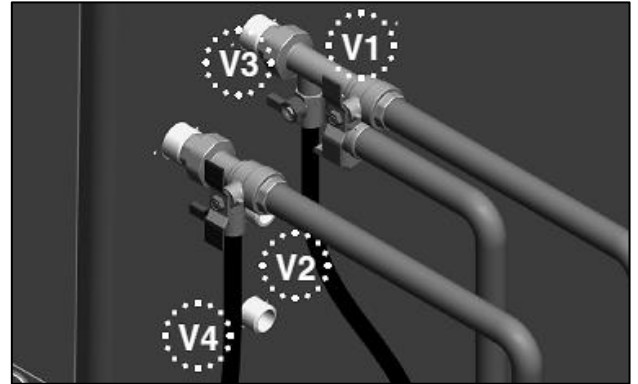

Figure 45 – Valve Detail
2. Close the shutoff valves on both hot water outlet and cold water inlet lines (V1 and V2). See Figure 45.